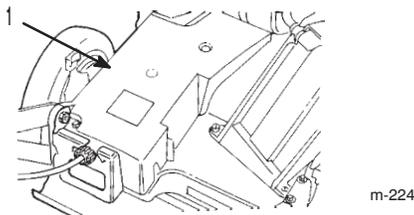

Figure 22
- Remove the bolts that secure the belt cover to the lawn mower housing (Fig. 22).